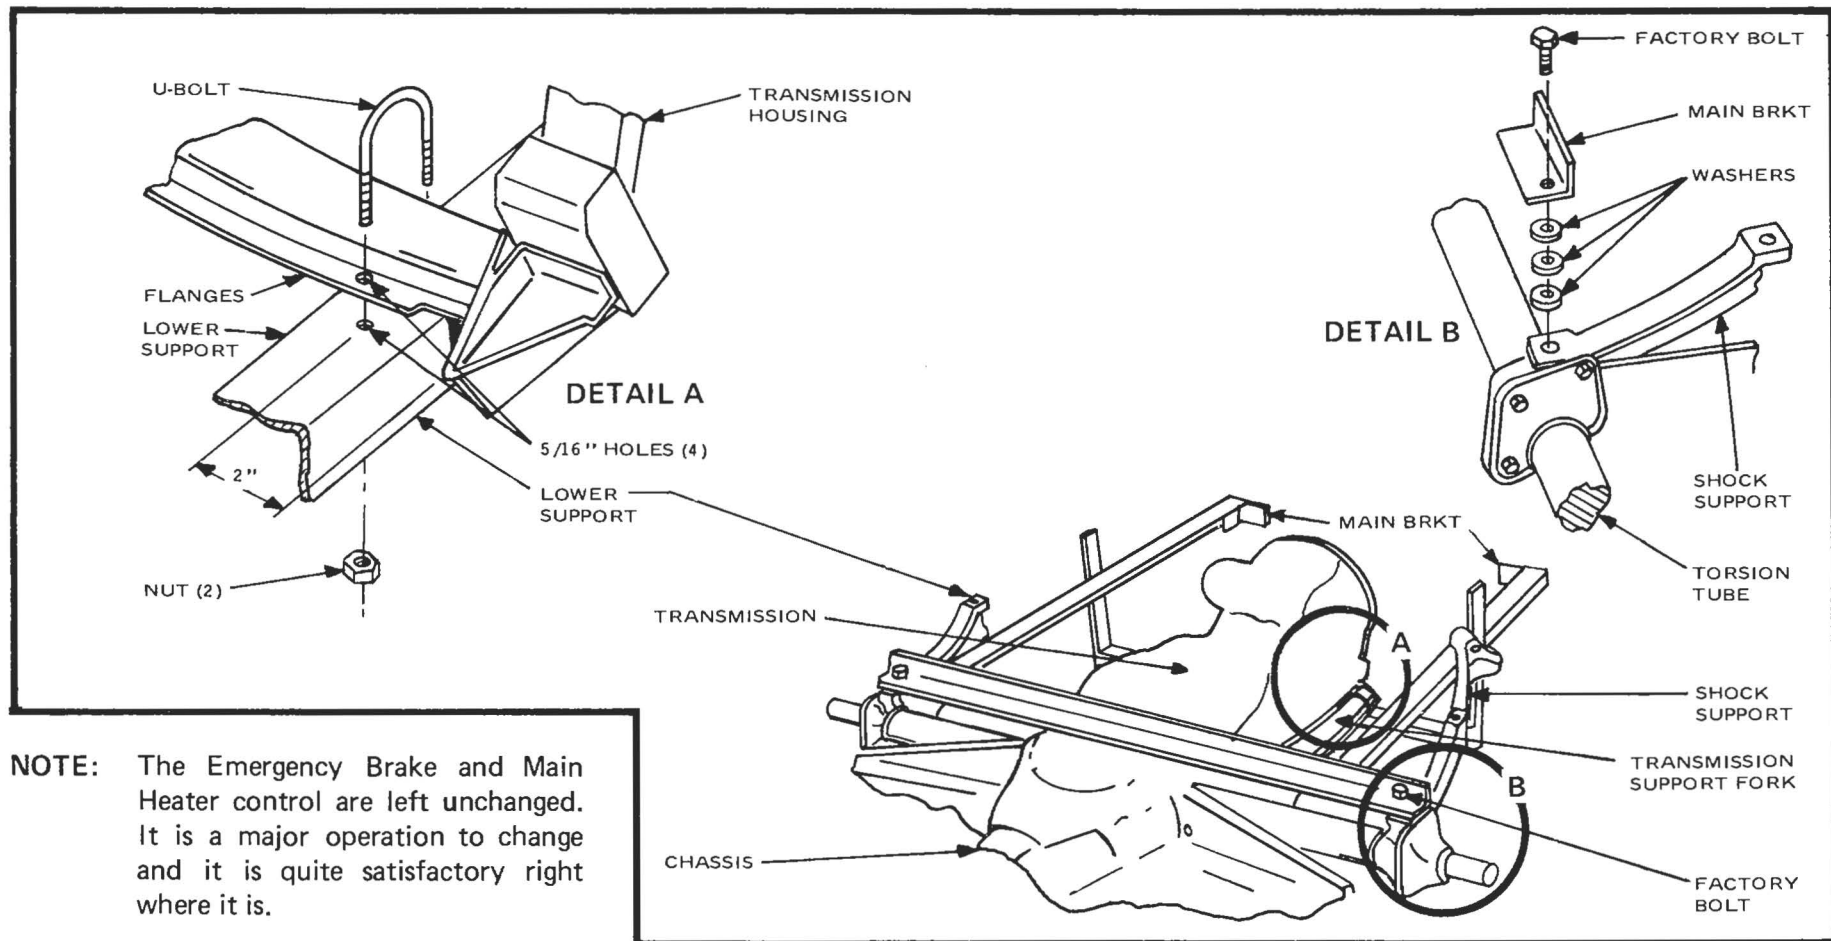

Figure 15
- ☐ Measure 2" forward from the transmission housing on the support forks. Drill 5/16" holes 2" apart on the forks. This should put one hole on each side of the fork, through the flanges. Insert the 2 "U" bolts provided from the top down through the flanges. Position the bracket under the fork and bolt loosely to the "U" bolts (Figure 15) Position the main support bracket on the two lower mounting holes of the rear shock support. Use 3 washers at each location as shims and bolt in place using the original bolts.